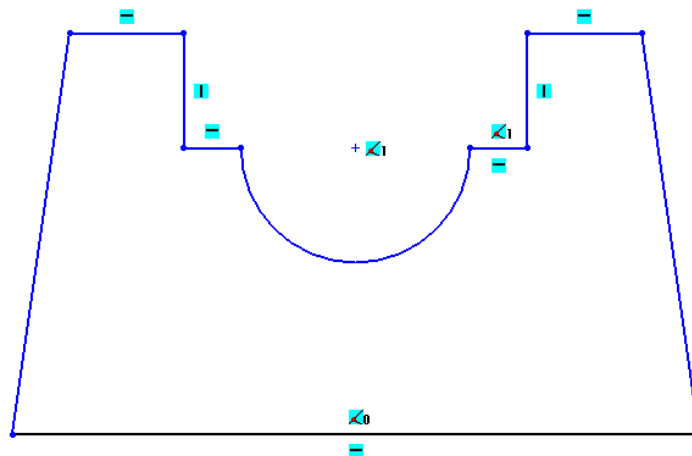

Figure 1-62 Final sketch for Tutorial 4
- Draw the sketch using the **Line** tool, refer to Figure 1-62.
19. Choose the **Zoom to Fit** button from the **View** toolbar to modify the drawing display area. The final sketch for Tutorial 4, without the grid display, is shown in Figure 1-62.